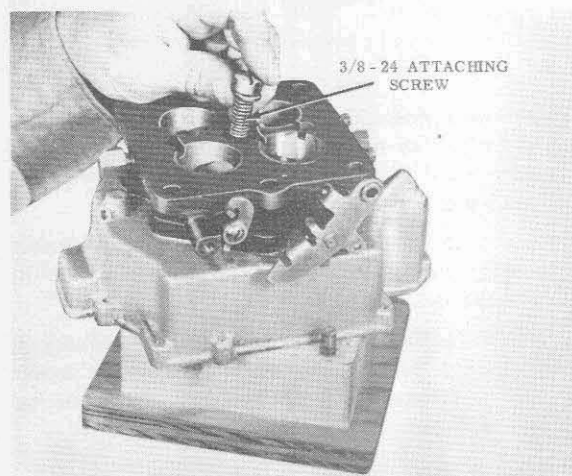

Figure 7-19
12. Place Throttle Body in Position on float bowl. (Figure 7-19.) Attach with three 10-32 attaching screws and lock washers and one large  $\frac{3}{8}$ -24 screw and lock washer.